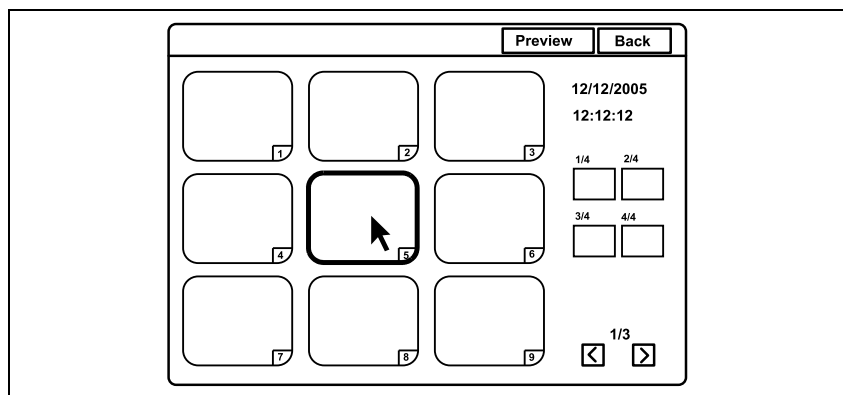

Figure 5.70
3. The annotation selection screen appears (see Figure 5.70).
5. Click the required thumbnail image. The selected image is edged with a thick frame. The shooting date and time of the image are displayed on the right side of the window (see Figure 5.70).